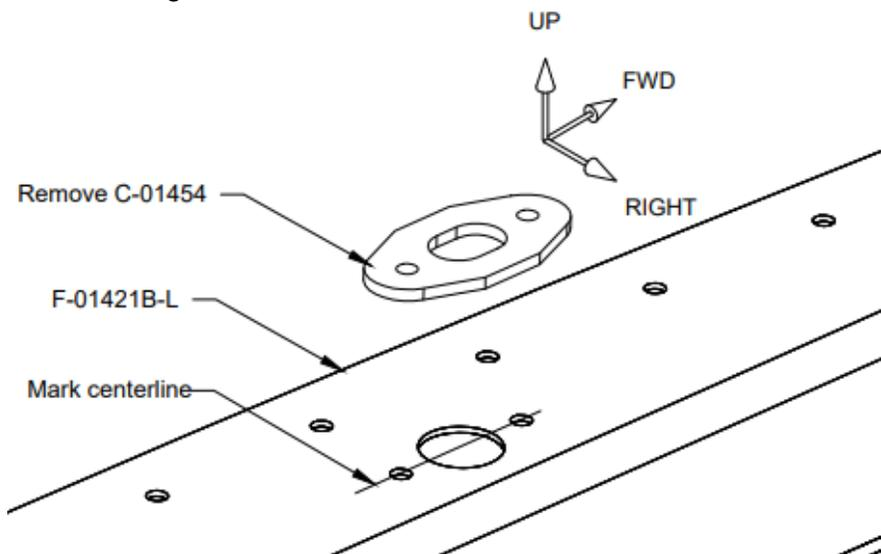

FIGURE 2: GUIDE PLATE INSTALLATION
Step 2: . Remove C-01454 Guide Plate and scribe line through center line of mounting holes as shown in Figure 2.